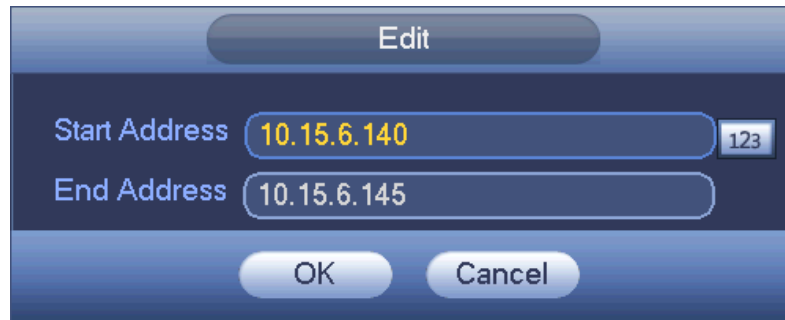

Figure 4-132
- **Edit:** Click it to edit start address and end address. See Figure 4-132. System can check the IP address validity after the edit operation and implement IPv6 optimization.